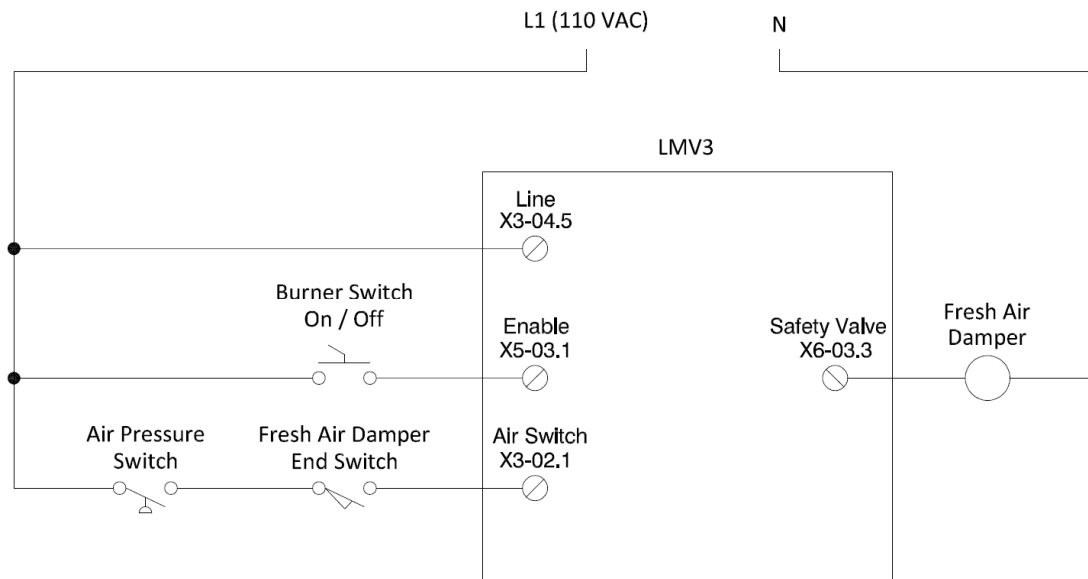

Figure 3: LMV3 Fresh Air Damper Wiring – Option 2
2. Wire the LMV3 and fresh air damper as shown in Figure 3.